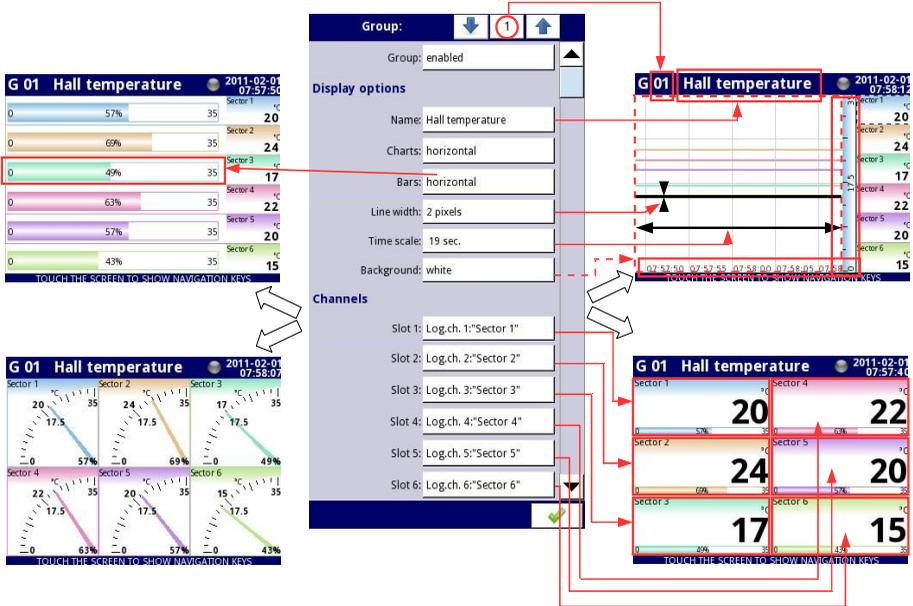
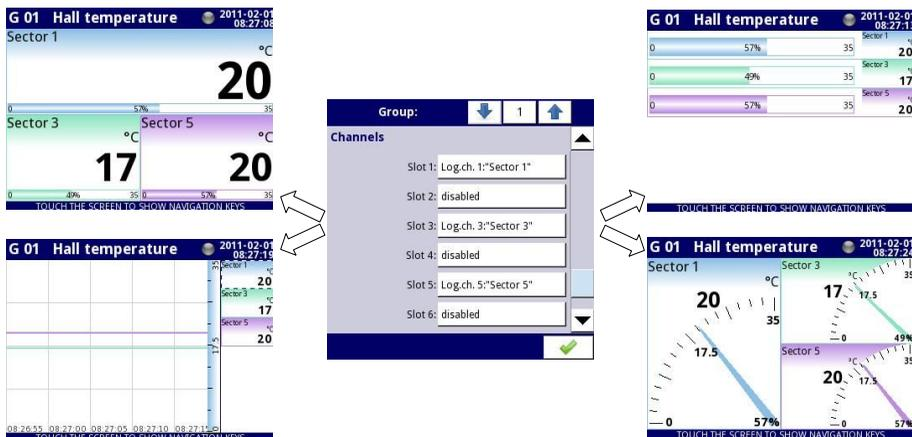

Fig. 7.118. Sample of **Group** parameters settings - all Slot set to **Logical channel**
Fig. 7.120. Sample of **Group** parameters settings - Slots set to **Logical channel** and set to **disabled**
- **Slot 1÷6** - in each slot the user can select an option (see Fig. 7.118÷Fig. 7.120):